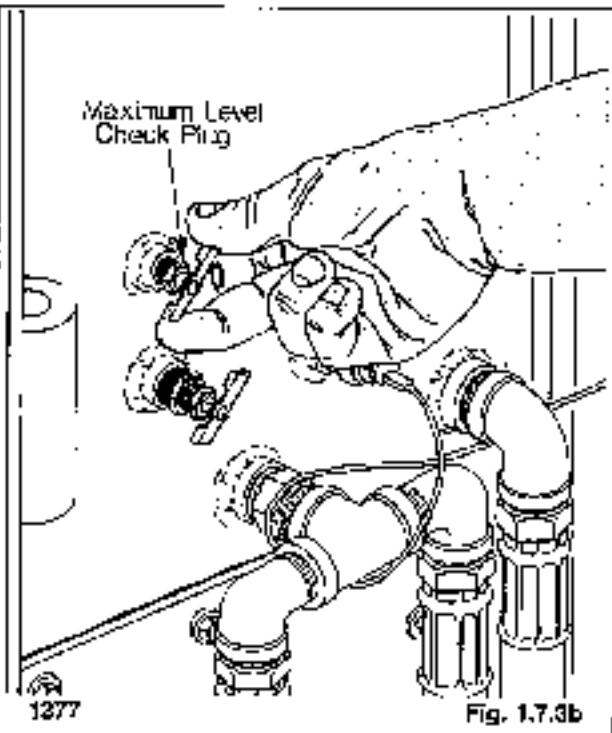

Fig. 1.7.3b
1. Open the top or maximum oil level check plug (fig. 1.7.3b).